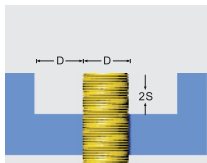

Fig2
- There should be a non-metallic area around the sensing face. The range of this area is D and $2S$. (Fig.2)